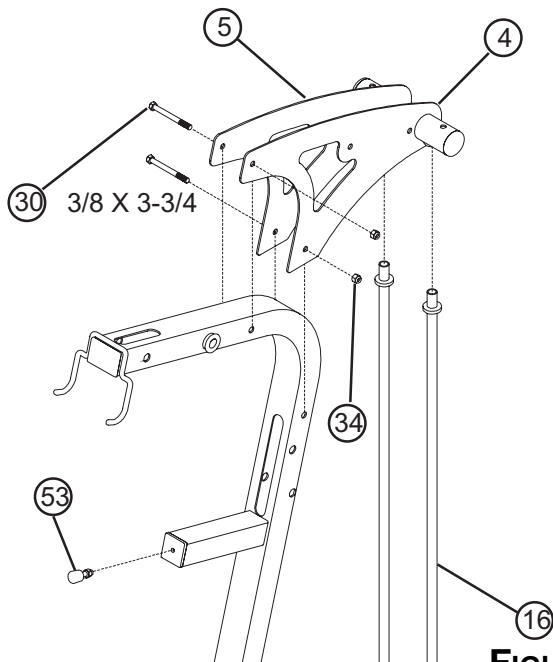
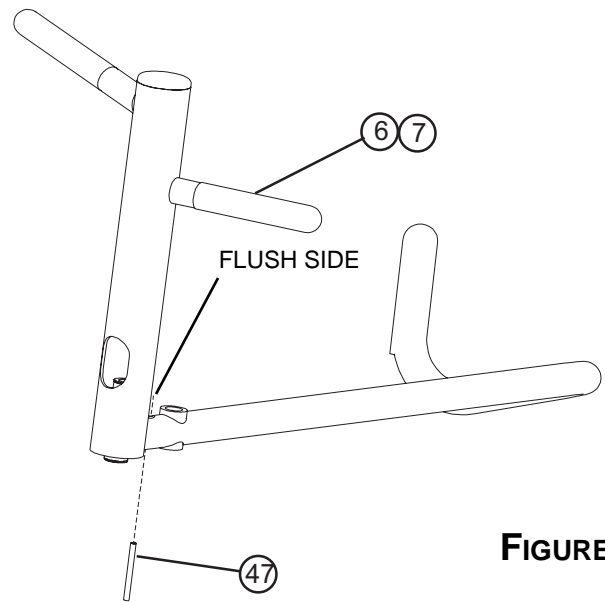

FIGURE 5
FIGURE 6
- Carefully slide the RIGHT and LEFT (5 & 4) BOOM PLATES onto the GUIDE RODS (16) as shown in FIGURE 5 and loosely assembly the BOOM PLATES (5 & 4) to the FRAME (1) using two 3/8 x 3-3/4" BOLTS (30) and two 3/8" LOCK NUTS (34). **CAUTION MUST BE TAKEN NOT TO PULL THE GUIDE RODS (16) OUT OF THE BASE (2).**
- Screw the ADJUSTABLE GLIDE (53) approximately 1/2" into the FRAME (1) and tighten the jam nut securely as shown.
- Use a hammer to tap one 5/16 X 2" ROLL PIN (47) thru the LEFT PRESS HANDLE (7) until it is flush with the other side of the HANDLE as shown in FIGURE 6.
- Repeat STEP 6 for the RIGHT PRESS HANDLE (6).